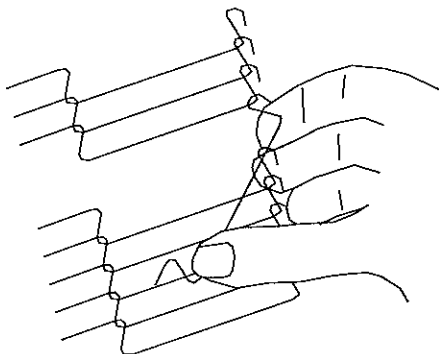

Figure 4-26.
3. Remove the outside master links on the right and left sides of the conveyor belt as shown in Figure 4-26.